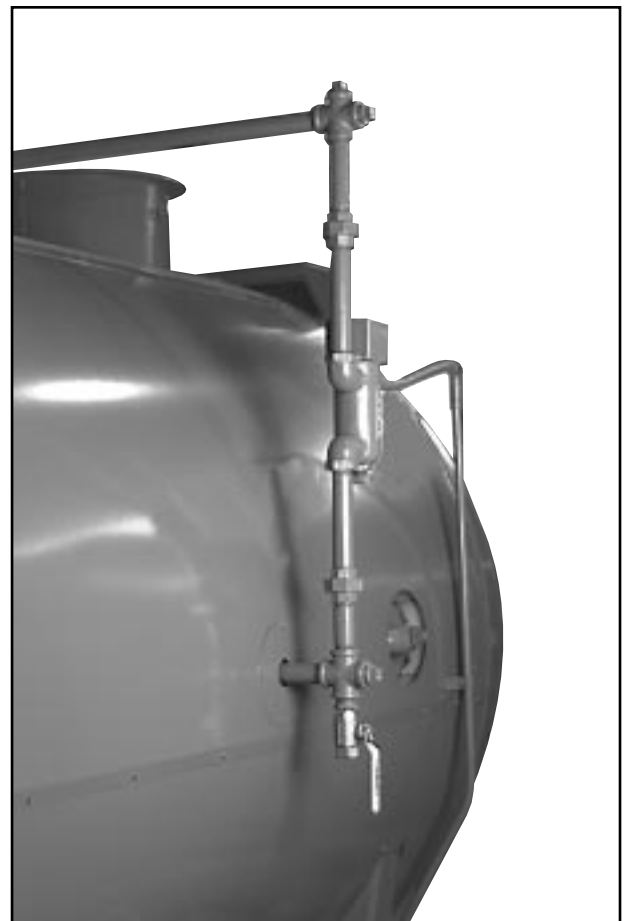

Figure: 1-8 Auxiliary Low Water Cut Off
10. Auxiliary Low-water Cutoff (Figure 1-8): Breaks the circuit to stop burner operation in the event boiler water drops below the master low-water cutoff point. Manual reset type requires manual resetting in order to start the burner after a low-water condition.